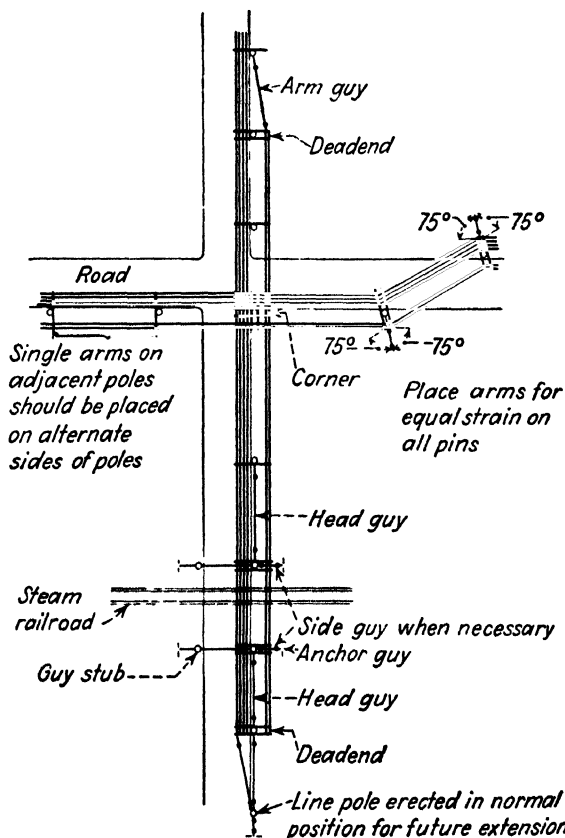

FIG. 12-1. Typical pole line showing use of arms and guys. (Courtesy Consolidated Gas Electric Light and Power Co.)
**Where to Guy.** Guys should be installed wherever the wires tend to pull a pole or crossarm out of its proper position in the line. Specific places where poles or crossarms are subjected to such side pulls are given in what follows. Figure 12-1 shows a typical pole line with numerous guy installations.